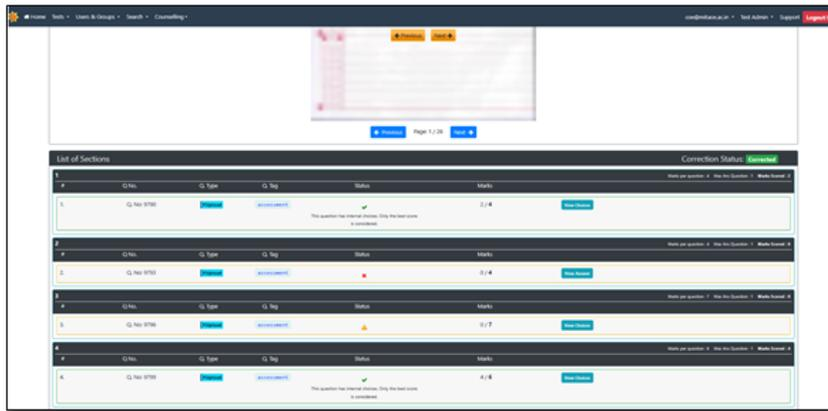

Fig 3.2c. Sample of answer script verification
- Students having query in the evaluation of answer scripts are allowed to verify their evaluated answer scripts during a scheduled paper review session, ensuring transparency in awarding marks. (Refer Fig 3.2c for sample of answer script verification)